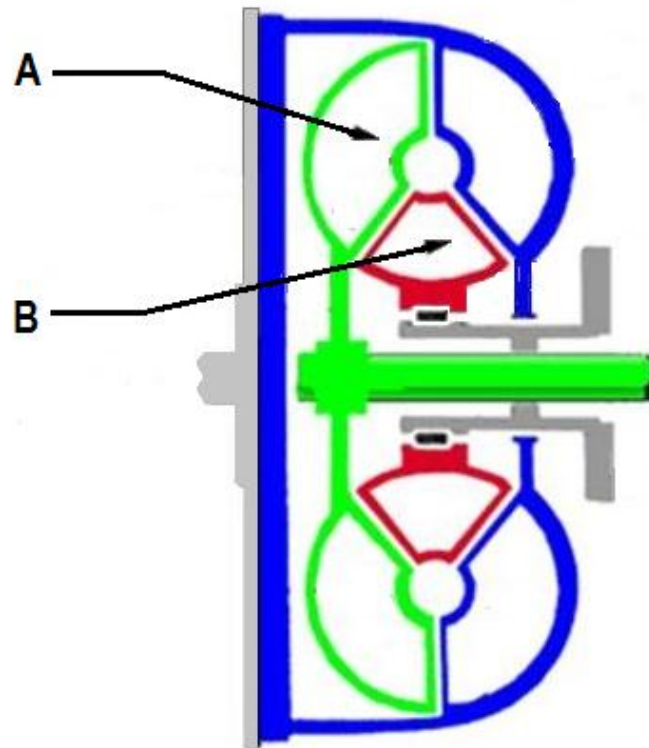

Figure 3
- 3.2 FIGURE 3 below, illustrates the internal layout of a component, commonly used in fluid clutches.
- 3.2.1 Identify the component in Figure 3 above. (1)
- 3.2.2 Identify and describe the difference between the two elements numbered A and B in of Figure 3. *